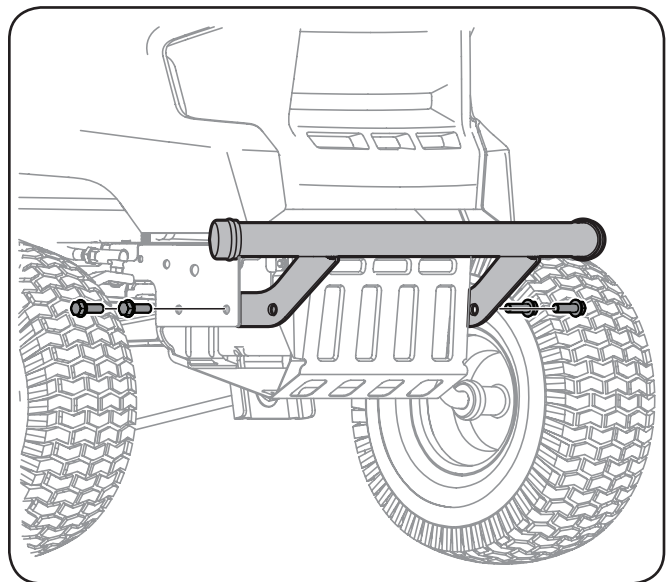

Figure 3-9
2. Position the bumper brackets to the *inside* of the tractor's frame and secure it in place with the four hex flange screws. See Figure 3-9.